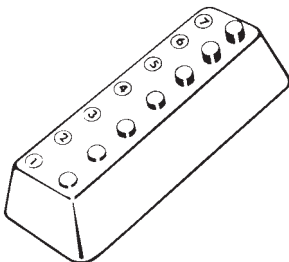

Figure 2.26 A tubular key decoder makes it easy for a locksmith to determine the bitting of tubular keys. (*A-1 Security Manufacturing Corp.*)
- Tubular-key decoder (Fig. 2.26)